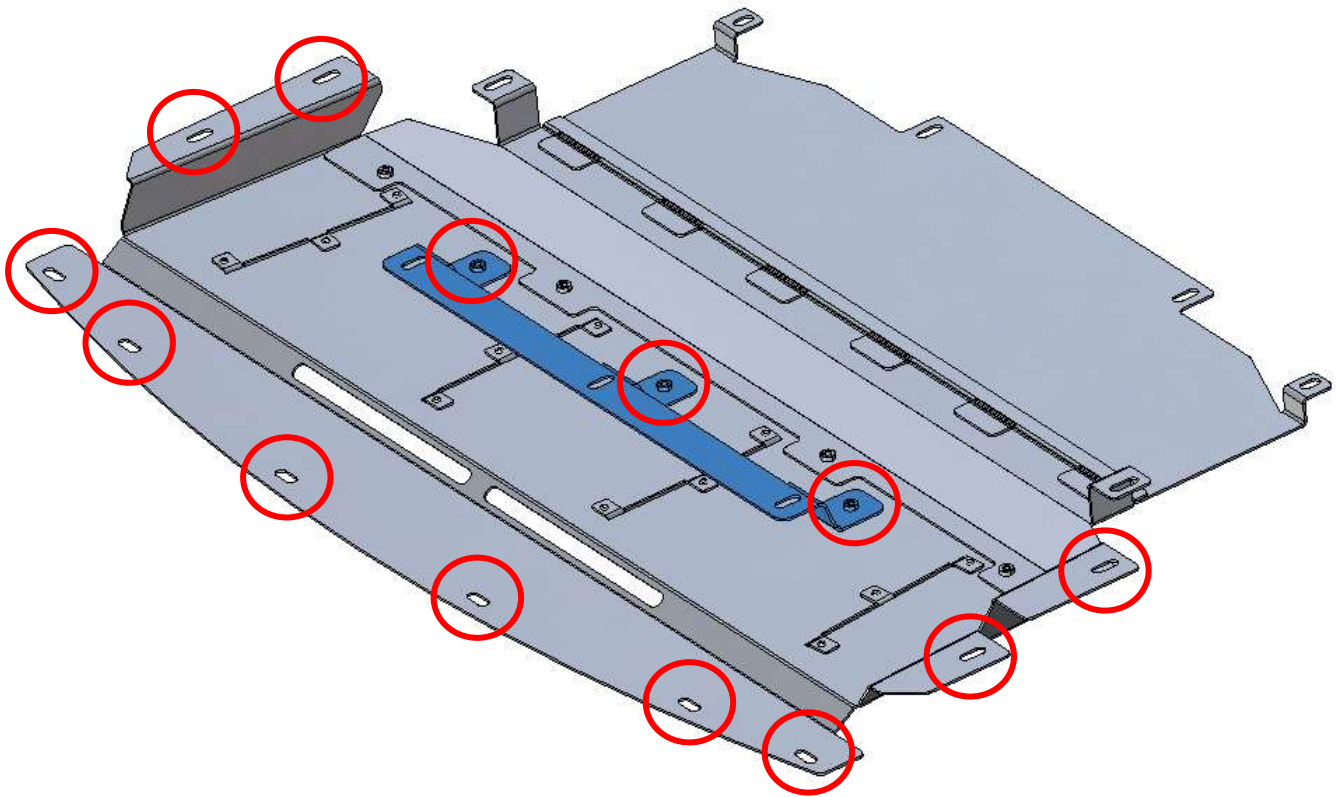

Figure 5
8. Locate the Main Section and (13) thirteen M6 SEMS Screws. Position the Main Section up to the bottom of the vehicle. Loosely secure it with the M6 SEMS Screws in the spots circled below. Do not fully tighten these bolts until the other panels have been installed. *Figure 5.*